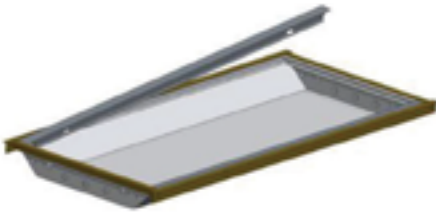

Fig. 1-1
- 3.) Slide Universal Frame bracket under the fixture and between the T-Bar (Fig. 1-1)